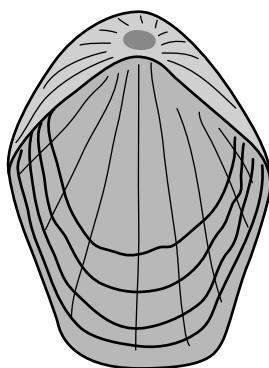

Fig. 1.1
- (iii) Fig. 1.1 shows a drawing that one of the students made to record the details of a fossil that he had found.